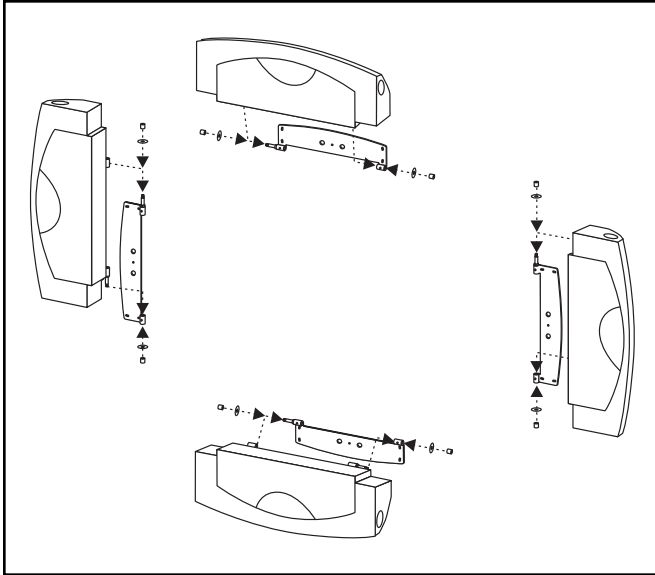

Figure 23. Install the Fresco and the washers and cap nuts.
- 9 Place the Fresco onto the wall bracket and carefully slide the Fresco into place (see figure 23).
- 10 Using a 6mm Allen tool, attach a washer and cap nut onto each pin. Do not fully tighten the cap nuts (see figure 23).